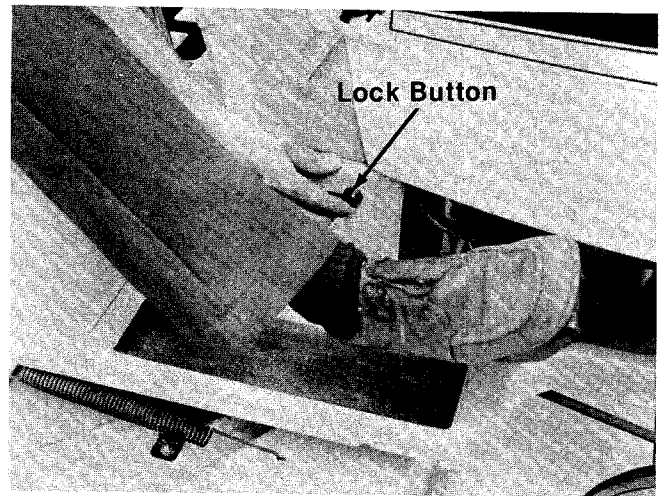

FIGURE 12.
- i. **Brake Lock.** The brake lock is located on the right hand side of the mower. To lock the brake, depress the brake pedal and lift up the lock button. The pedal will stay depressed. To release, depress the pedal. See figure 12.